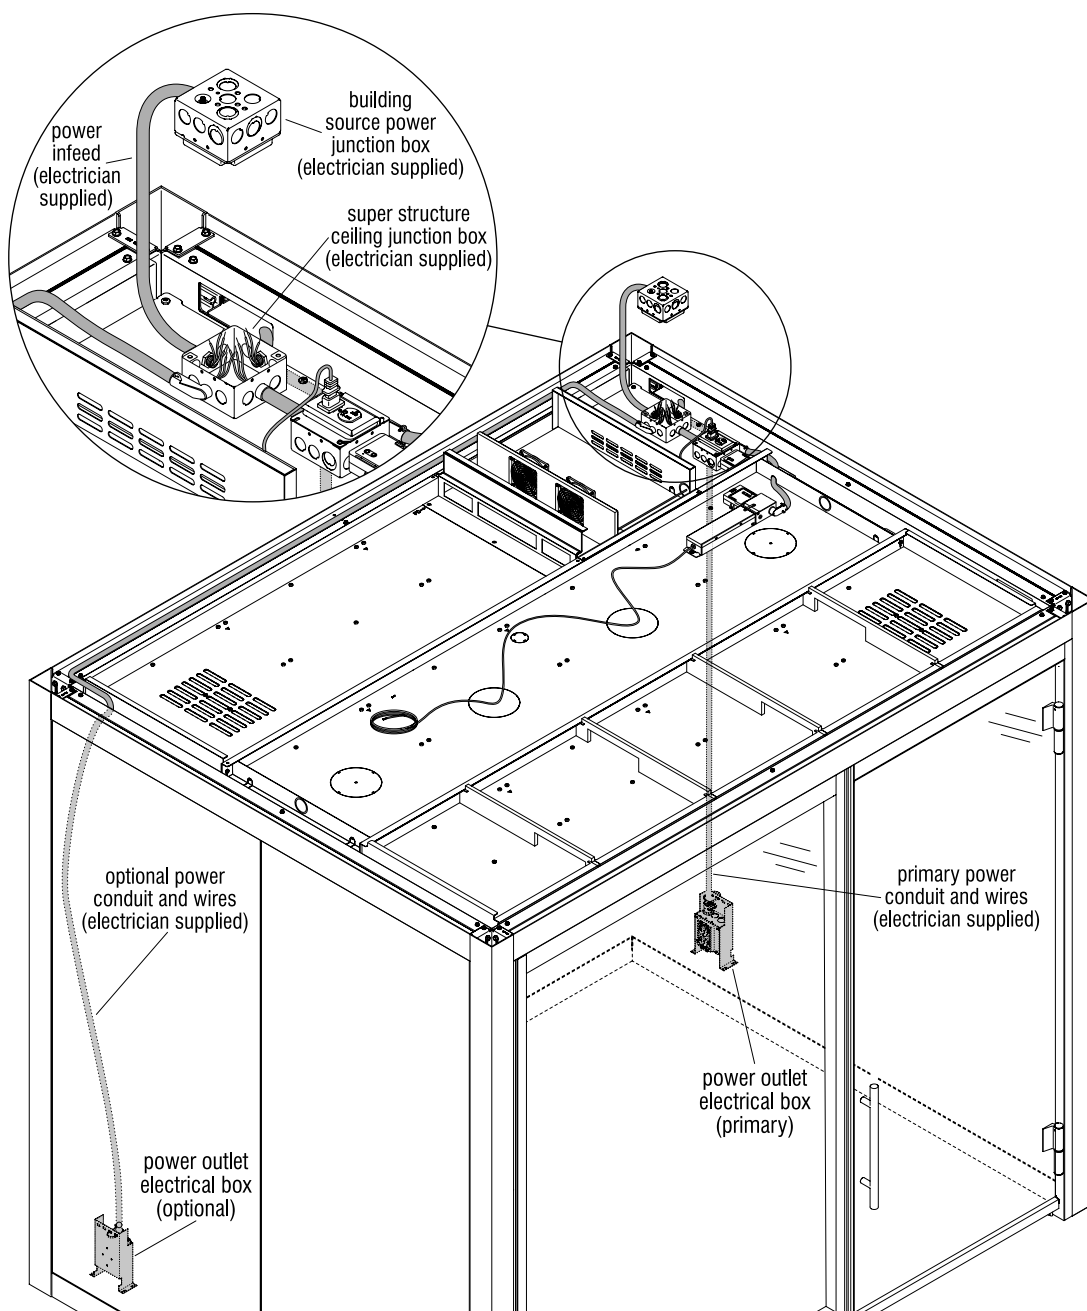

Figure 4
9. Conduit and wire connections from the building source power to the electrician-supplied junction box on the super structure ceiling may now be made. Connections in the ceiling junction box will include building source power to the power infeed for the electrical control harness assembly, and panel wall power outlet(s). All connections are to be done by a certified electrician following all codes at the job site (Figure 4).